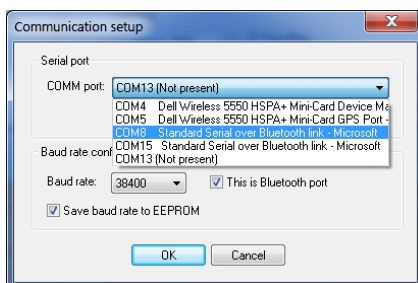
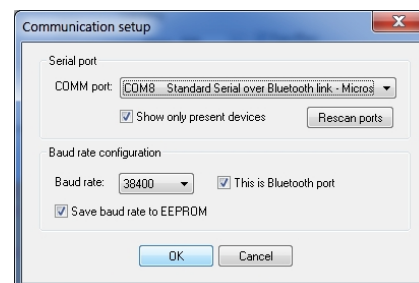

Figure 3.1
Figure 3.2
**Communication setup** or by pressing the icon, that opens dialog in Figure 3.1. It is necessary to press the **Rescan ports** and to choose the desired port in drop-down menu (Figure 3.1). In this case it is COM8 (Figure 3.2), choose the option **This is Bluetooth port** and press the **OK** button.